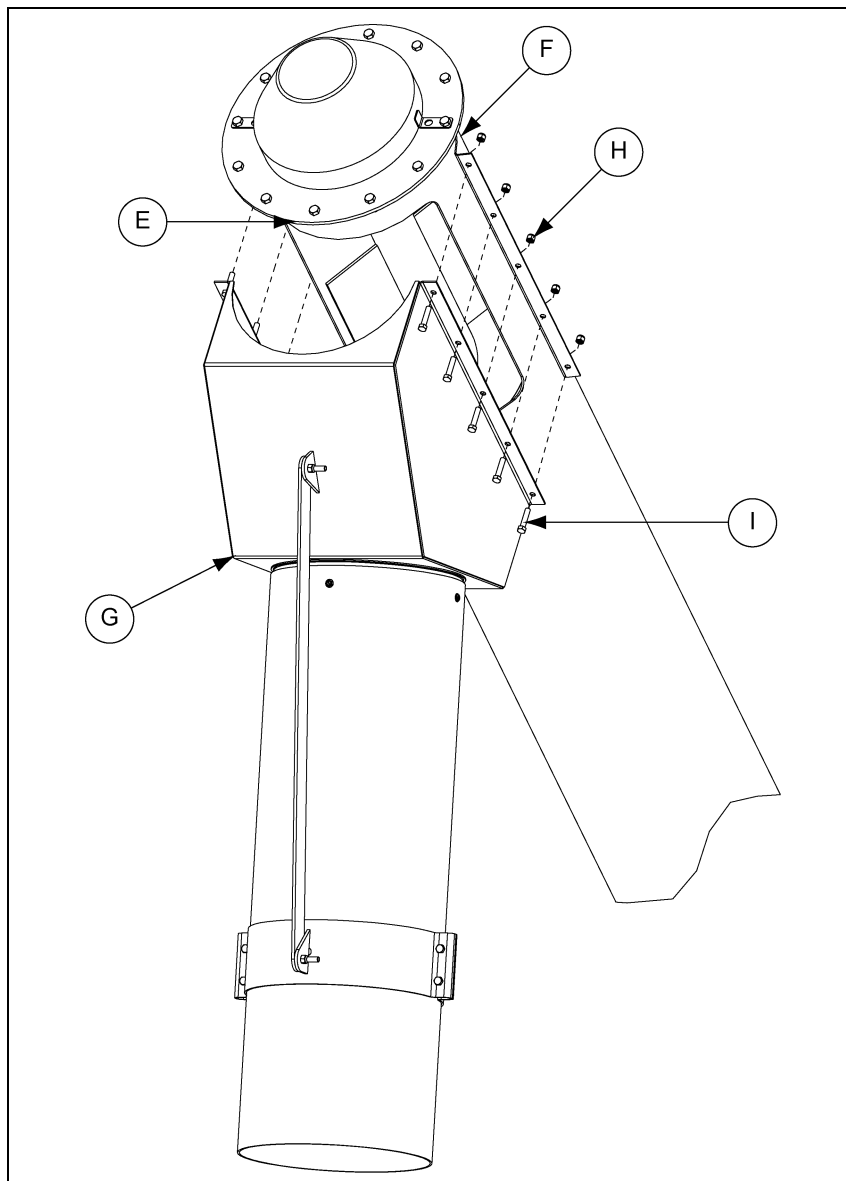

Figure 3B
- B. Attach the 60° spout (G) over the discharge opening (E) on the vertical tube. Secure the half band (F) and spout (G) with 5/16" x 1-1/2" hex bolts (I) and nylock nuts (H). (See Figure 3B.)
- C. Attach the half band (F) and the mounting bracket pivot band 56-1/2" below the bottom of the spout (G), 1/3rd of the tube length, using four (4) 3/8" x 1-1/2" hex bolts and 3/8" nylock nuts.